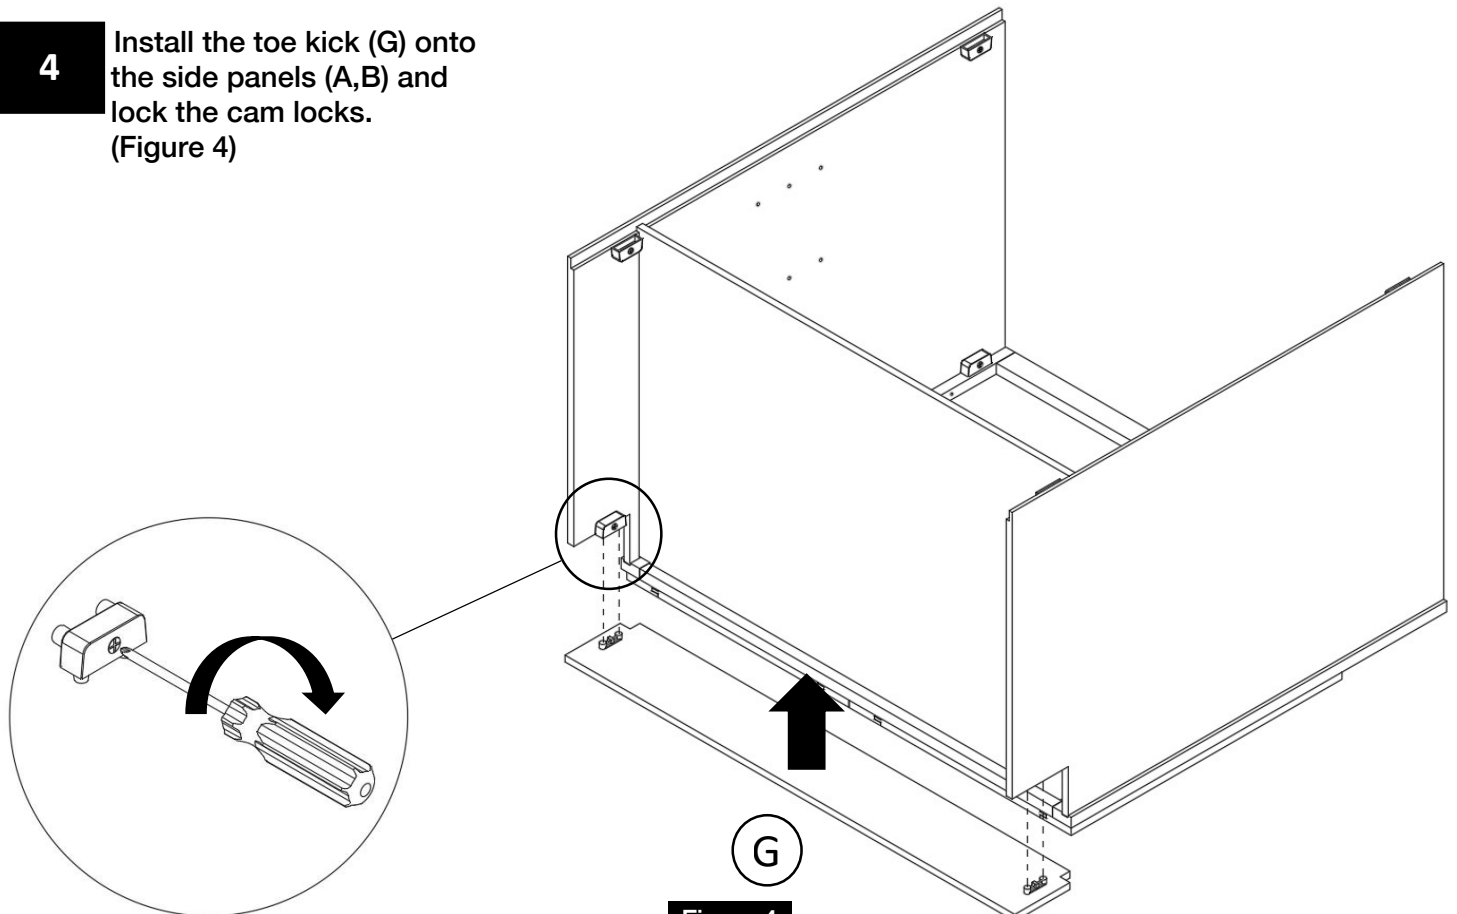

Figure 4
Install the toe kick (G) onto the side panels (A,B) and lock the cam locks. (Figure 4)